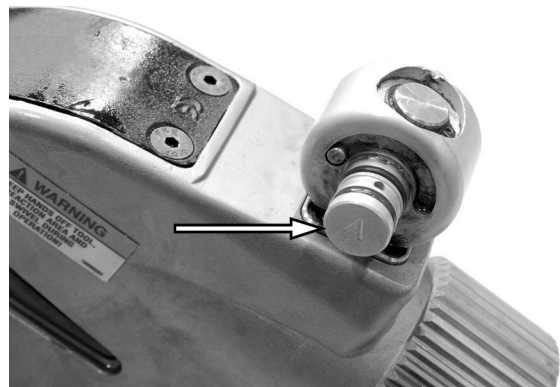

Figure 20. Circlip Installation
6. See Figure 20. Attach the banjo circlip to the post.